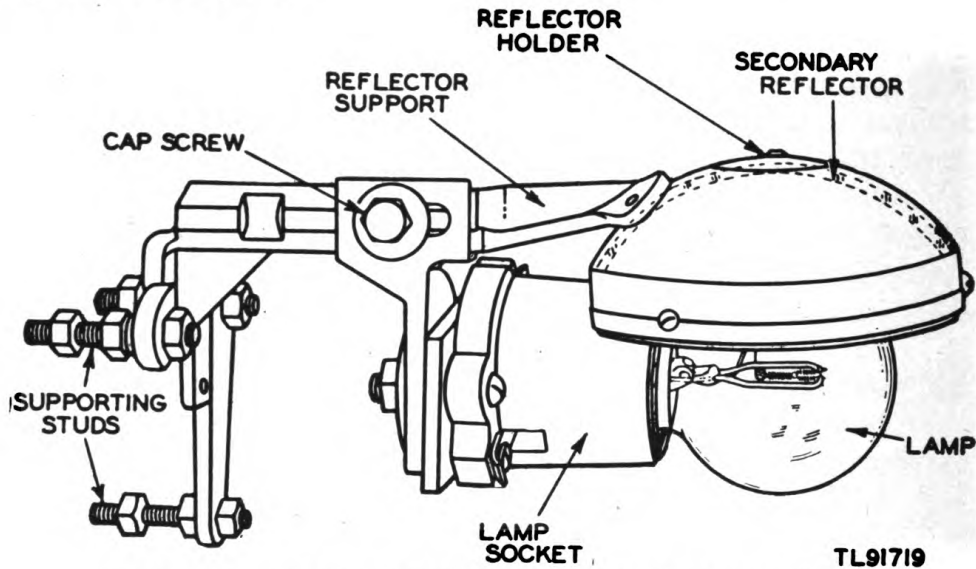

Figure 9. Lamp socket assembly, Ceiling Light Projector ML-121-D.
(2) Place the new secondary reflector in the holder, and replace the three holding screws and washers.
(3) Check the adjustment of the secondary reflector. (See par. 19.)
b. CEILING LIGHT PROJECTOR ML-121-D. (1) Remove the three machine screws and the clamping ring which hold the secondary reflector in the reflector holder. (See fig. 9.)
(2) Remove the old secondary reflector, and replace it with a new one.
(3) Replace the three machine screws and clamping ring, and securely tighten them in place.
(6) Look through the center of the filament towards the center of the reflector, and adjust the assembly until the coils of the filament image interlock with, and are the same size as, the coils of the filament itself.
(a) In Ceiling Light Projector ML-121-D loosen the cap screw and hexagonal nut which hold the socket in place. (See fig. 9.) An image larger than the filament indicates that the reflector is too close to the lamp. (See fig. 10②.) An image smaller than the filament indicates that the reflector is too far from the lamp. The image may be the correct size but displaced to one side. (See fig. 10③.) Move the socket and lamp with relation to the secondary reflector until the inverted image and filament are the same size, and then lock the cap screw in place. Move the socket and lamp from side to side until the coils of the filament and of the inverted image are interlocked, and then lock the hexagonal nut in place.